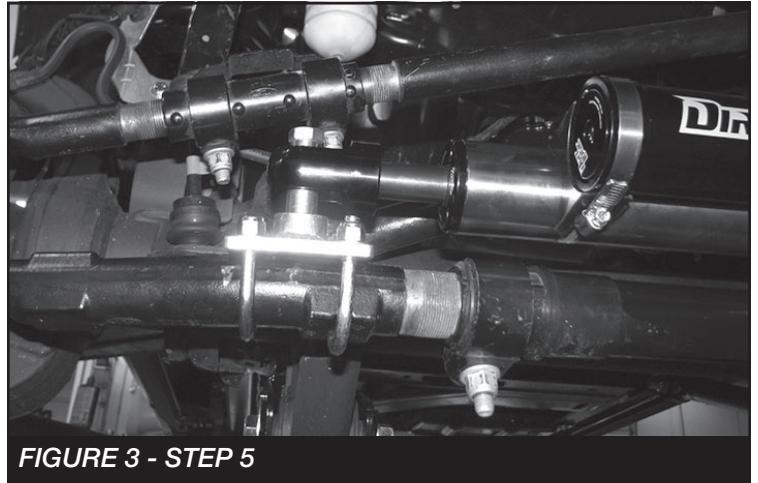
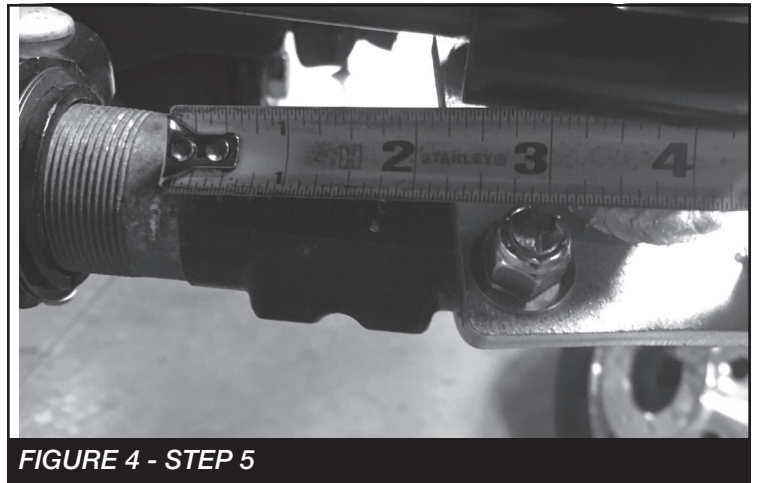

FIGURE 3 - STEP 5
FIGURE 4 - STEP 5
5. **10 Lug F-450/550 ONLY** Working on the Passenger side of the truck, locate FT30148 Tie Rod End Bracket and position it so the inner ubolt seats in the groove of the factory outer tie rod using the supplied 3/8" hardware. **SEE FIGURE 3.** (Driver side) Install the FT30148 on the driver outer tie rod so the bracket measures 2-1/4" from the end of the factory tie rod. **SEE FIGURE 4** Torque the 3/8" ubolt hardware to 37 ft-lbs.